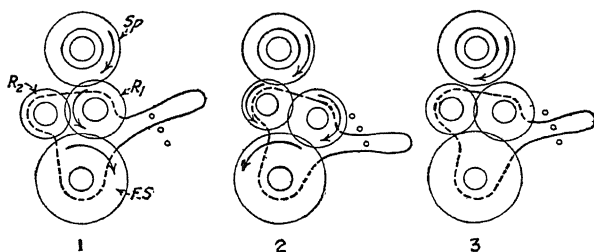

FIG. 28.—Illustrates operation of reverse gears or tumbler gears.
**39. The Tumbler Gears.**—The operation of the tumbler gears  $R_1$  and  $R_2$  is illustrated in Fig. 28. These gears are carried on a bracket which is pivoted on the stud shaft and operated by means of the reverse-gear handle (44, Fig. 13), to any one of the three positions shown. It will be observed that the two tumbler gears are intermediate gears between the spindle gear and the fixed stud gear, and are so mounted on the bracket as to make it possible for the operator to have either one intermediate or two intermediates in mesh between the driven gear and the driving gear, or to throw them both